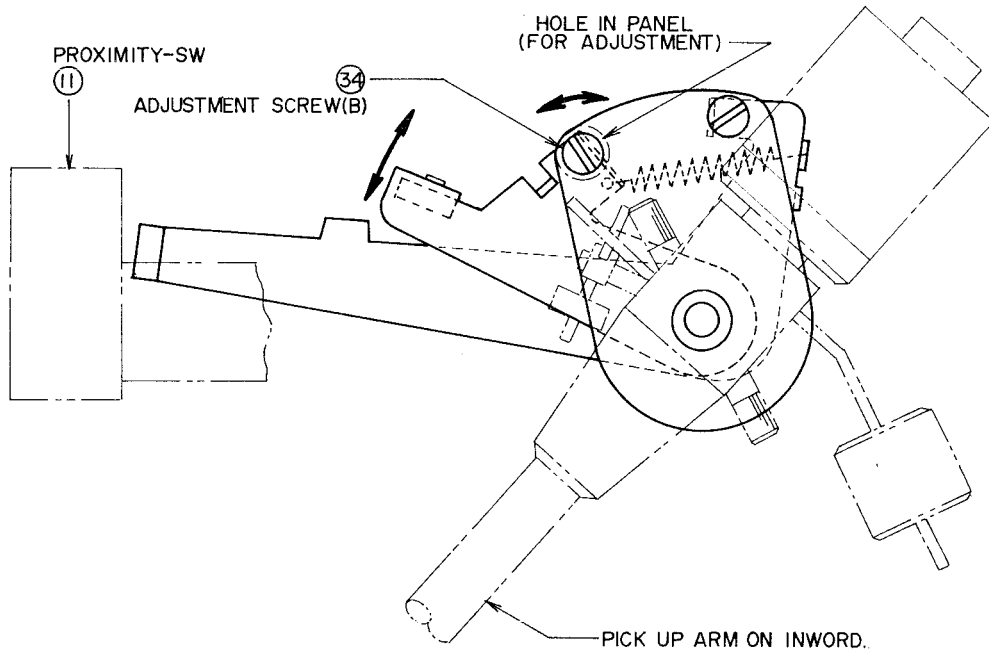

Fig. 13
When adjustment screw (B) (Fig. 13) is turned to the right through the hole in panel with a (-) screw driver, adjustment is to further inner position, and when turned to the left, adjustment is to further outer position.